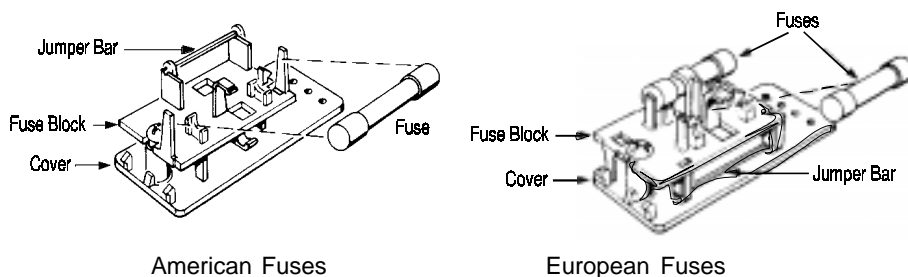

Figure 5-2: Installing Fuses
3. Replace fuse as shown in Figure 5-2.